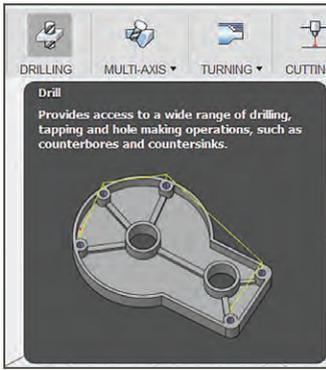

FIGURE 13-9: Make holes with the Drill menu.
- ▶ **Drill:** This menu contains drilling, tapping, and hole-making operations, such as counterbores and countersinks (Figure 13-9).